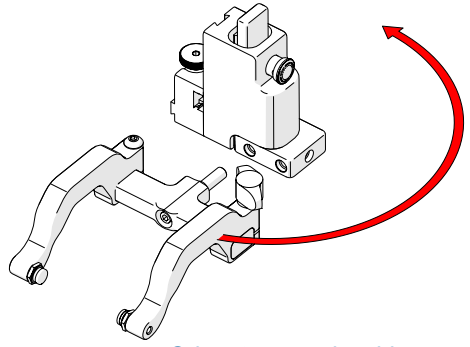

Fig. 128 - Orient to opposite side
- 12.** Position the yoke and arms to the opposite side of the probe holder (*Fig. 128*).